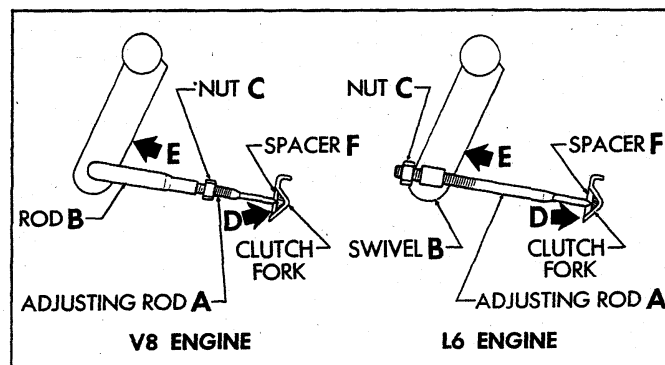

Fig. 4 - Clutch Pedal Free Travel Adjustment
The clutch release bearing (fig. 4), used with the bent finger diaphragm clutch, has an overall length of approximately 1-1/4". The longer bearing, used with the straight diaphragm, will cause inability to obtain free pedal travel, especially as the clutch wears, resulting in slippage and rapid wear. **DO NOT INTERCHANGE!**
Refer to Figure 4 and the following procedure:
6. Lubricate the recess on the inside of throwout bearing collar and the throwout fork groove with a light coat of graphite grease (fig. 4). On Corvette models use Moly Grease.